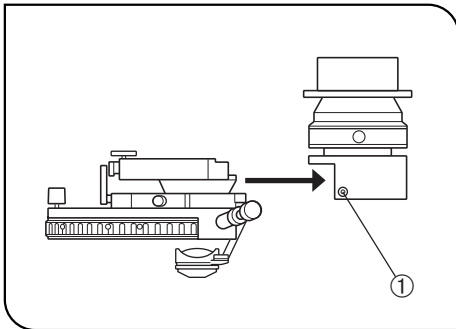

Fig. 77
(Figs. 77 & 78)
1. Using the Allen screwdriver, loosen the two setscrews ① on the IX-ADUCD UCD adapter. (Fig. 77)
3. Tighten the two setscrews ① using the Allen screwdriver. (Fig. 77)